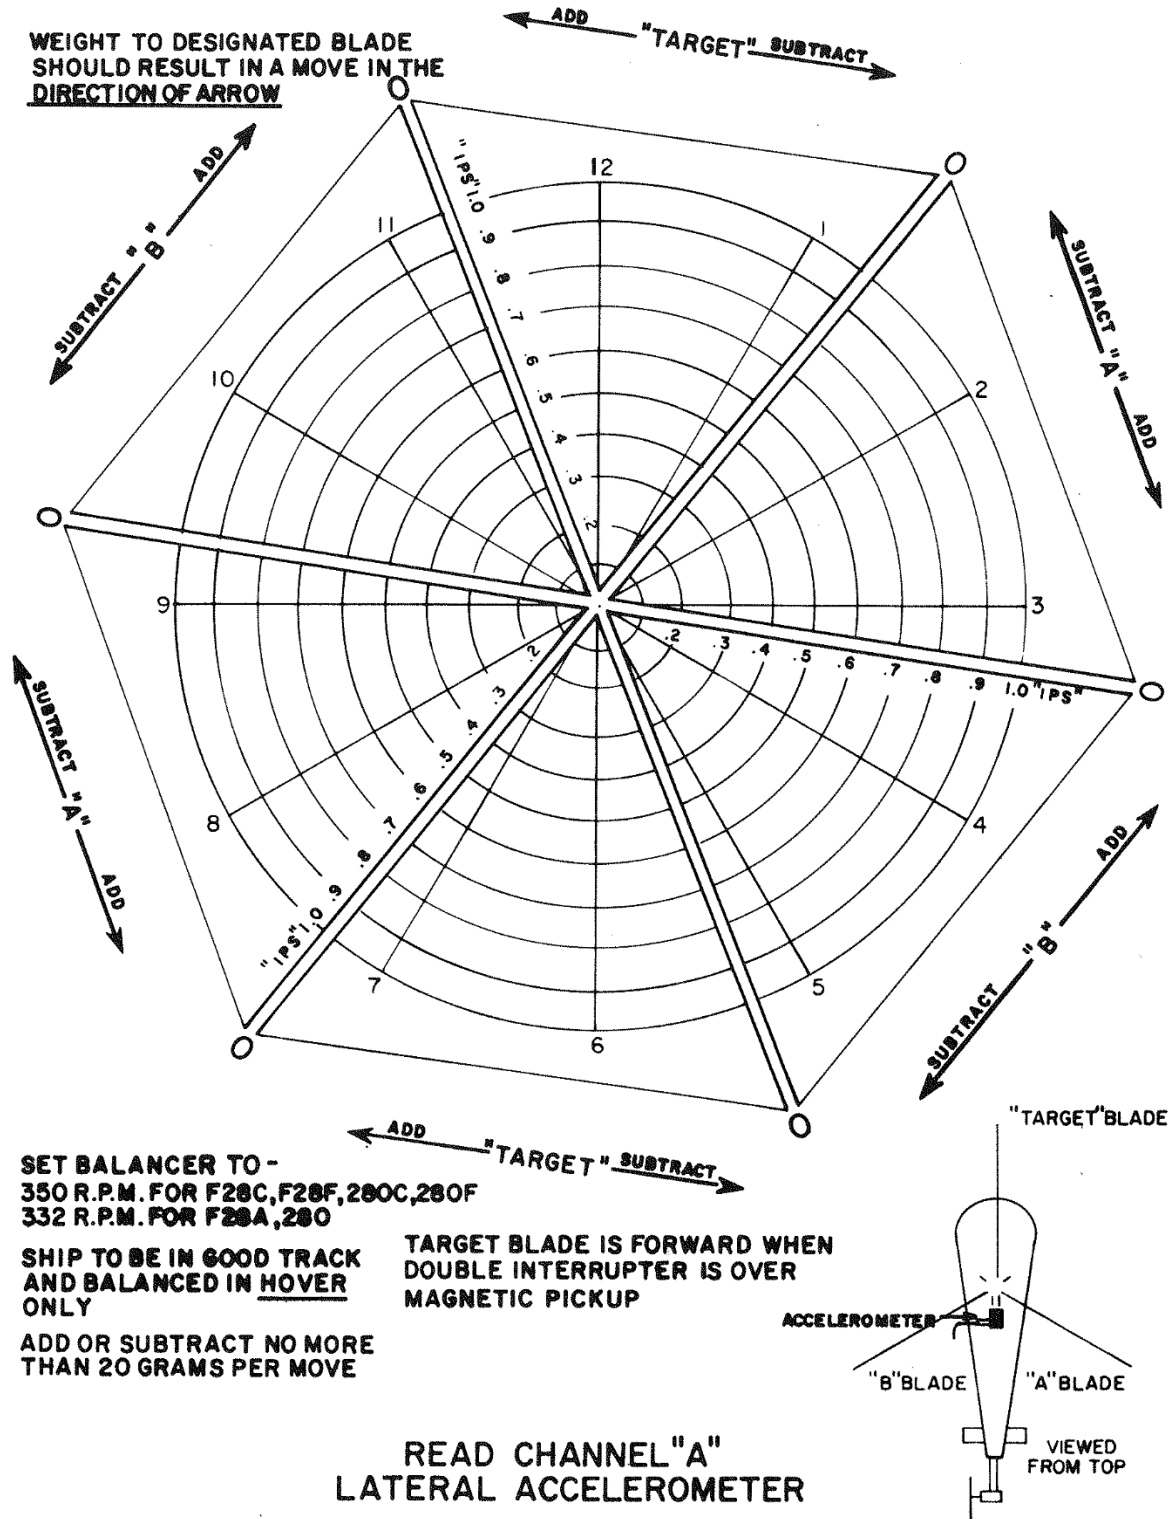

Figure 12-5. Lateral Accelerometer Channel "A" Polar Chart
- (1) It is not recommended to change tip weights in the Enstrom rotor system because there is no centering mechanism in the hydraulic lead-lag dampers. Changing tip weights usually results in the blade flying in different lead-lag position but will not cure the underlying cause of a lateral imbalance.
- (2) If a set of blades is suspected to be out of balance, they can be statically balanced as a set. Contact Enstrom Product Support for information about static balancing blades or obtaining a static balance kit.
- (3) The Lateral Accelerometer Channel "A" Polar Chart (Figure 12-5) can be used to help determine which axis (lead-lag bearing, damper, or out-of-balance blade is causing the lateral vibration.